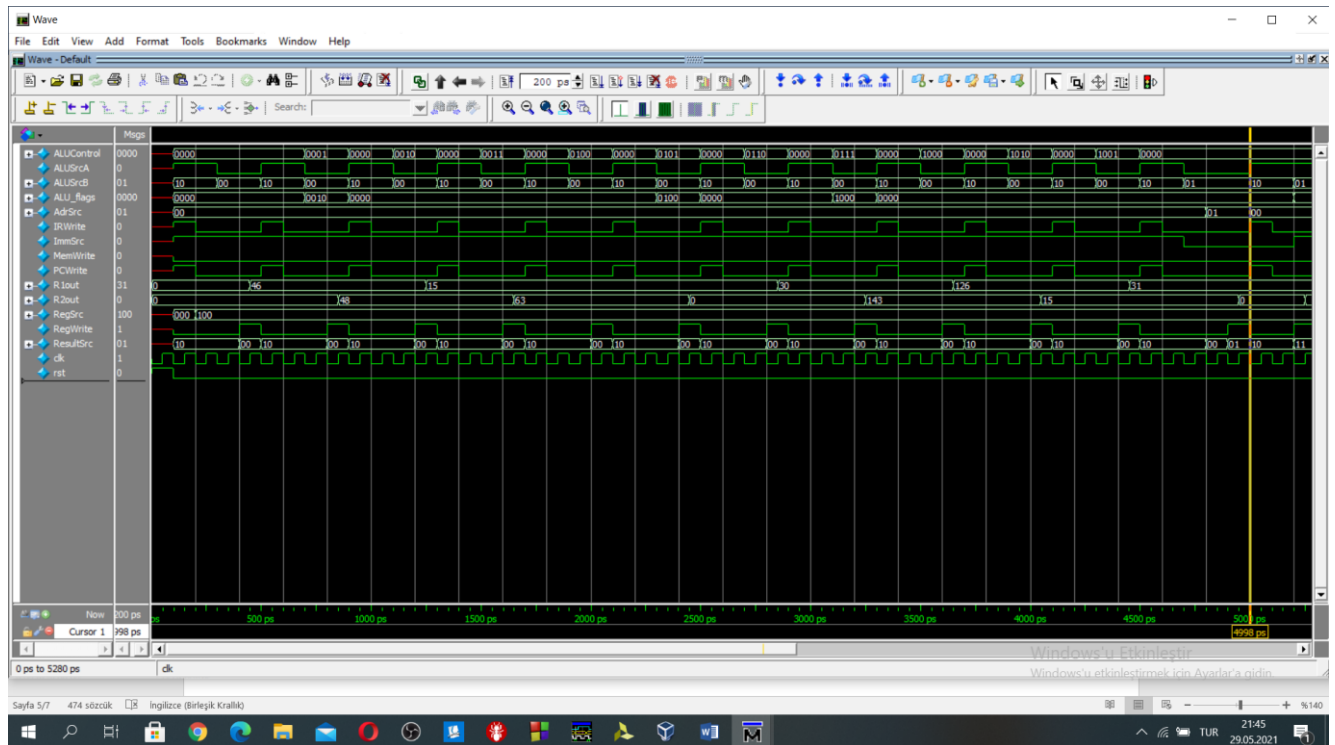

Figure 6: The simulation result between 0-5000ps
1st instruction ADD(four cycles)(100ps-500ps) As in the Figure 6, R1out output value is updated as 46 after four clock cycle. $r1=r3+r4 \rightarrow r1=15+31=46$, calculated value and simulation value are matching.
2nd instruction SUB(four cycles)(500ps-900ps) As in the Figure 6, R2out output value is updated as 48 after four clock cycle. $r2=r5-r3 \rightarrow r2=63-15=48$, calculated value and simulation value are matching.
3rd instruction AND(four cycles)(900ps-1300ps) As in the Figure 6, R1out output value is updated as (15)1111 after four clock cycle. $r1=r3\&r4 \rightarrow r1=00001111(15)\&00011111(31)=00001111(15)$, calculated value and simulation value are matching.
4th instruction ORR(four cycles)(1300ps-1700ps) As in the Figure 6, R2out output value is updated as (63)111111 after four clock cycle. $r2=r3\&r5 \rightarrow r2=00001111(15)\&00111111(63)=00111111(63)$, calculated value and simulation value are matching.
5th instruction XOR(four cycles)(1700ps-2100ps) As in the Figure 6, R1out output value is updated as (15)1111 after four clock cycle. $r1=r3 \wedge r0 \rightarrow r1=00001111(15) \wedge 00000000(0)=00001111(15)$, calculated value and simulation value are matching.
6th instruction CLR(four cycles)(2100ps-2500ps) As in the Figure 6, R2out output value is updated as 0 after four clock cycle. $r2 \leftarrow 0$, $\rightarrow r2 = 00000000(0)$ calculated value and simulation value are matching.
7th instruction ROL(four cycles)(2500ps-2900ps) As in the Figure 6, R1out output value is updated as (30)00011110 after four clock cycle. $r1=r3(00001111)$ rotate left by 1 $\rightarrow r1=00011110(30)$, calculated value and simulation value are matching.
8th instruction ROR(four cycles)(2900ps-3300ps) As in the Figure 6, R2out output value is updated as (143)10001111 after four clock cycle. $r2=r3(00001111)$ rotate right by 1 $\rightarrow r2=10001111(143)$, calculated value and simulation value are matching.
9th instruction LSL(four cycles)(3300ps-3700ps) As in the Figure 6, R1out output value is updated as (126)01111110 after four clock cycle. $r1=r3(00001111) \ll 1 \rightarrow r1=01111110(126)$, calculated value and simulation value are matching.
10th instruction ASR(four cycles)(3700ps-4100ps) As in the Figure 6, R2out output value is updated as (15)00001111 after four clock cycle. $r2=r4(00011111)$ arithmetic shift right by 1 $\rightarrow r2=00001111(15)$, calculated value and simulation value are matching.
11th instruction LSR(four cycles)(4100ps-4500ps) As in the Figure 6, R1out output value is updated as (31)00011111 after four clock cycle. $r1=r5(00111111) \gg 1 \rightarrow r1=00011111(31)$, calculated value and simulation value are matching.
12th instruction LDR(five cycles)(4500ps-5000ps) As in the Figure 6, R2out output value is updated as 0 after five clock cycle. $\text{ldr } r2, [r3, \#5] \rightarrow r2$ is loaded with data at the memory address 20. The data is equal to 0 at pointed by the address. Calculated value and simulation value are matching. Why it is 0, because imm8 is 0000 0000.